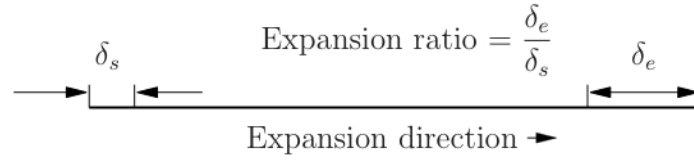

Figure 5: Mesh grading along a block edge.
- (b) The blocks sub-dictionary requires editing. The 4 blocks that have been generated have simple grading. The numbers in the vector immediately after **simpleGrading** corresponds to the expansion ratio in their respective directions. The expansion ratio has been defined in Fig. 5.